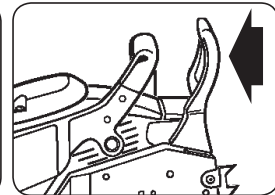
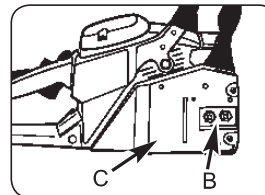

Fig. 3B
Fig. 3C
1. Make sure the chain brake lever is pulled back into the disengaged position (Fig. 3B).
2. Remove the 2 bar retaining nuts (B). Loosen
the 2 screws at the rear of the clutch cover (C). Remove the cover (Fig. 3C).